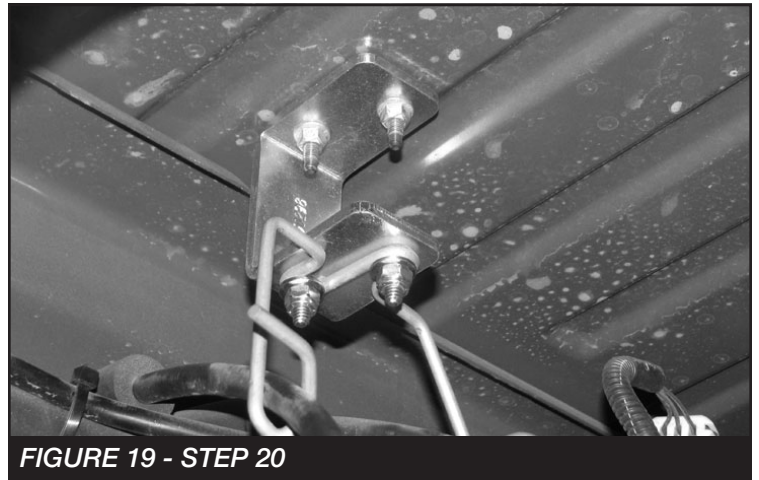

FIGURE 19 - STEP 20
20. Locate FT50298 E-Brake Bracket and supplied 1/4" hardware. Position the bracket to the factory mounting position and attach with the factory hardware. Attach the factory bracket to the new Fabtech bracket with the 1/4" hardware. Torque to 10 lbs. **SEE FIGURE 19**